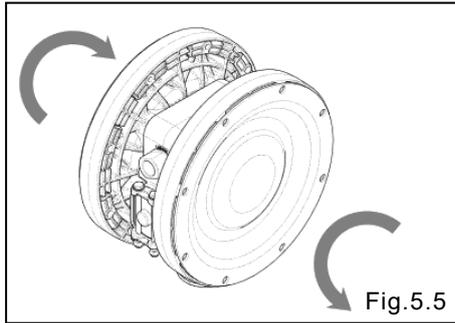

Fig.5.5
- Extraiga ambos diafragmas [Fig.5.5]